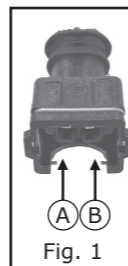

Fig. 1
**SA144:** use this if the positive of the petrol injectors is on PIN A and the negative is on PIN B. Refer to figure 1.
**SA144INV:** use this if the positive of the petrol injectors is on PIN B and the negative is on PIN A. Refer to figure 1.
**SA143:** use this if the positive of the petrol injectors is on PIN A and the negative is on PIN B. Refer to figure 1.
**SA143INV:** use this if the positive of the petrol injectors is on PIN B and the negative is on PIN A. Refer to figure 1.